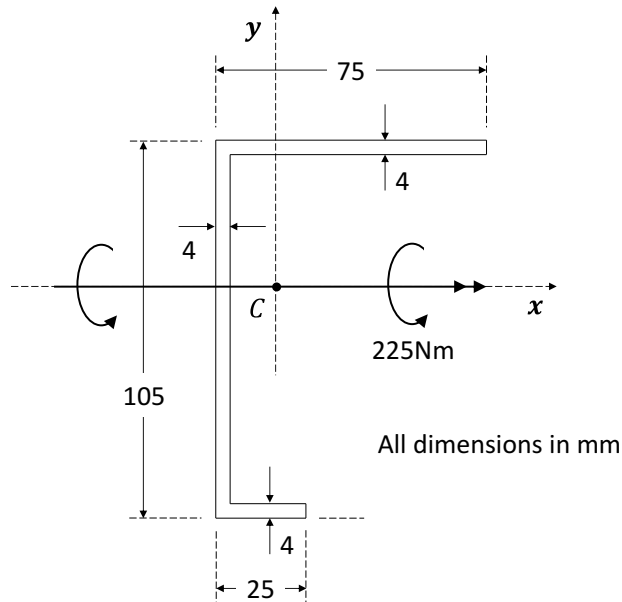

Fig Q5
5. Calculate (a) the position of the Neutral Axis and (b) the maximum tensile stress for the section shown in Figure Q5 when a Bending Moment of 225Nm is applied about the x-axis in the sense shown.